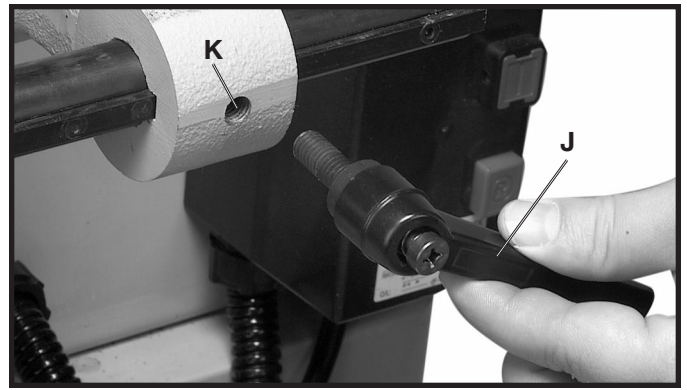

Fig. 24
7. Thread the ratchet handle (J) Fig. 24, into the tapped hole (K) and tighten securely.
**NOTE: ratchet handle (J) is spring loaded and can be repositioned by pulling out on the lever and repositioning it on the serrated nut located underneath the lever.**